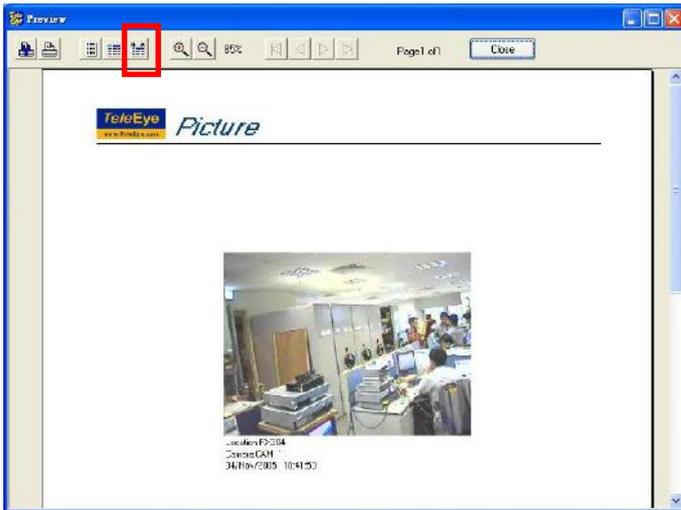

Fig 11.2f
Step 4: Click **[Fit Page Width]**  icon to preview the picture as same width size of **{Preview}** panel width size as shown in **Fig 11.2f**.